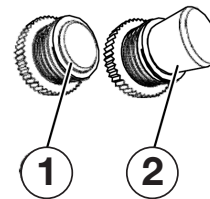

Figure 9 - Breakers
5. Make sure the circuit breakers are properly set (see Figure 9).